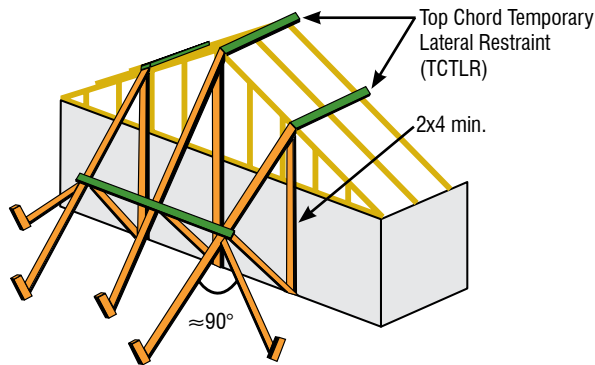

FIGURE B1-16
- Exterior Ground Bracing ties the first set of Trusses off to a series of braces that are attached to stakes driven into the ground and securely anchored. The Ground Brace itself should be restrained and braced as shown in Figures B1-16 and 17 or it is apt to buckle. Additional Ground Braces, placed inside the building in the opposite direction, are also recommended.